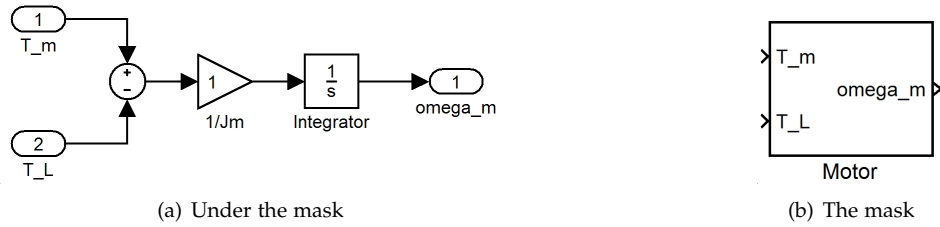

Figure 2: Simple motor implemented in Simulink
- (a) Implement the motor in Simulink as illustrated in Figure 2. Choose yourself if you want to hardcode the parameter  $J_m$  (as in the Figure), or you want to make it a mask parameter.
**Solution:** See Figure 2.